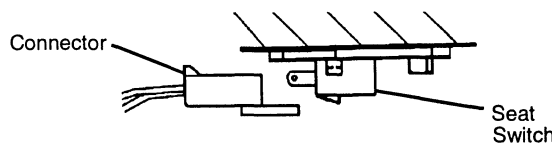

FIG. 5
- Connect the operator's seat switch connector on to the switch located on the bottom of the seat. Insure the connector locks onto the switch body. (See Fig. 5)